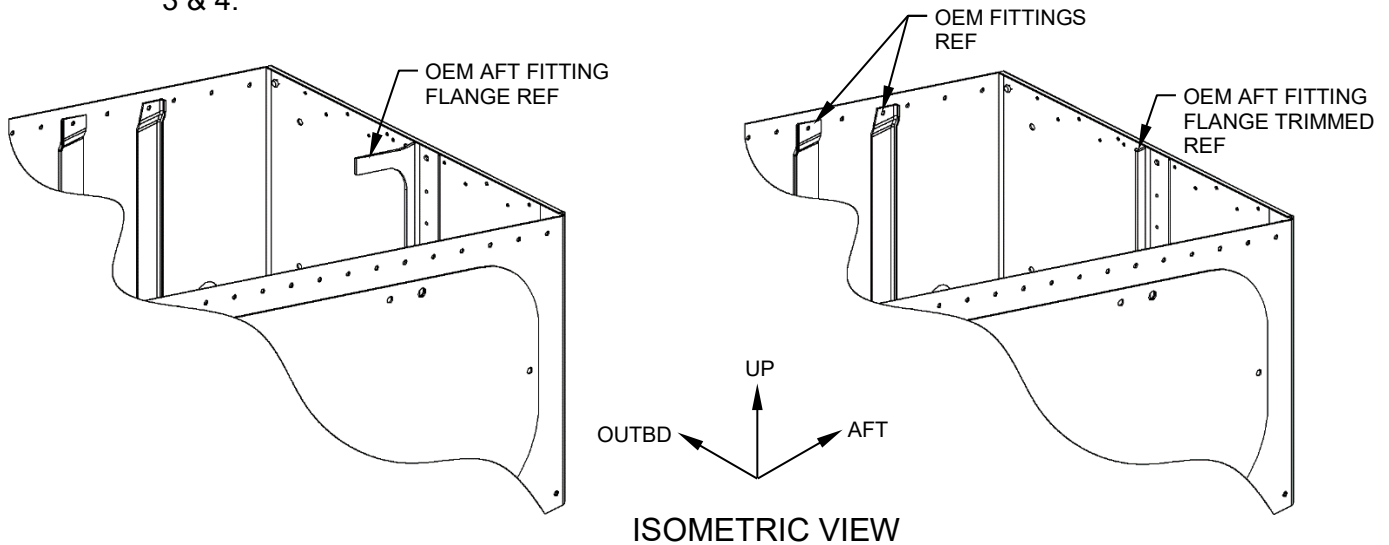

Figure 3
1.4. Trim the OEM AFT fitting flange to be flush with the remainder of the flange. See Figures 3 & 4.